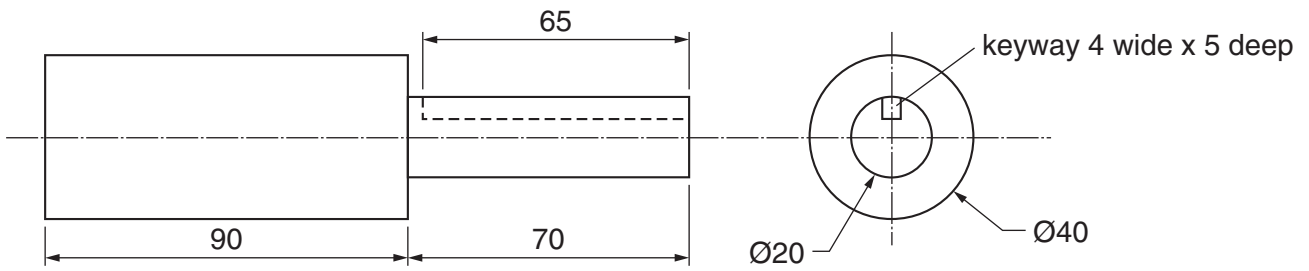

Fig. 3
Fig. 3 shows the drive shaft from the lifting platform.
(e) (i) State a **suitable specific material** for the drive shaft shown in Fig. 3 and give **two** properties or characteristics that make the material suitable for this use.
- (ii) Describe, in detail, how the drive shaft shown in Fig. 3 would be manufactured. Include details of quality control checks that you would use. Use a flowchart and/or annotated diagrams to support your answer.